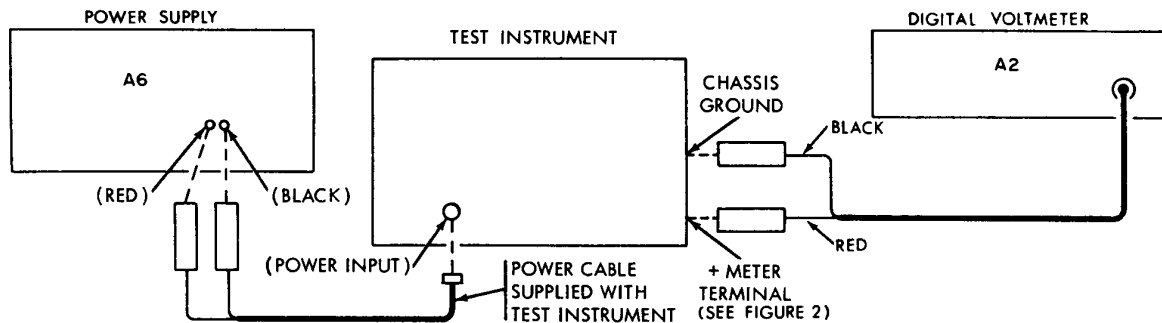

Figure 1. Panel meter accuracy - equipment setup.
- b.** Connect equipment as shown in figure 1.